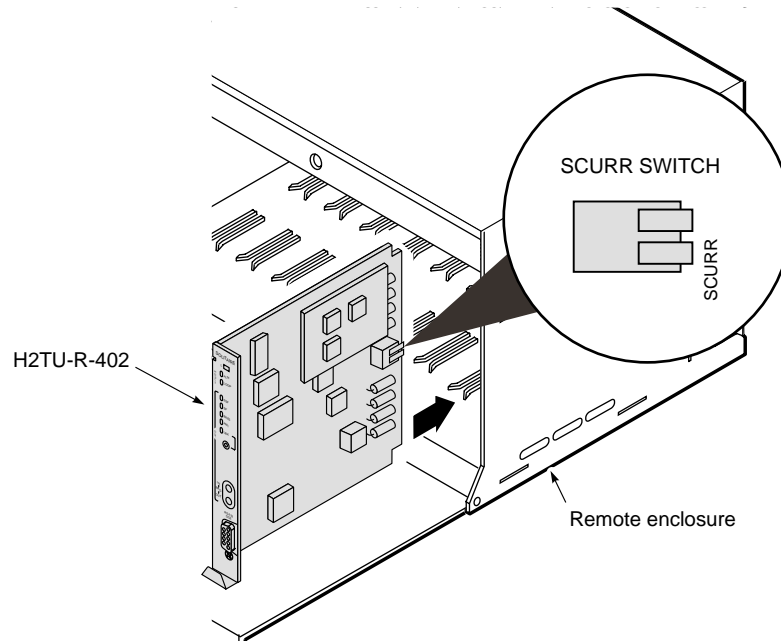

**Figure 1.** H2TU-R-402 List 4E Front Panel
Figure 1 shows the H2TU-R-402 List 4E front panel. Table 1 on page 4 describes the front-panel components. For pinout diagrams of the H2TU-R card-edge connector and craft port, refer to “Appendix A - Specifications” on page 31.
- 1 Connect a standard 9-pin serial cable to the RS-232 craft port (Figure 1 on page 3) on the H2TU-R-402 front panel.